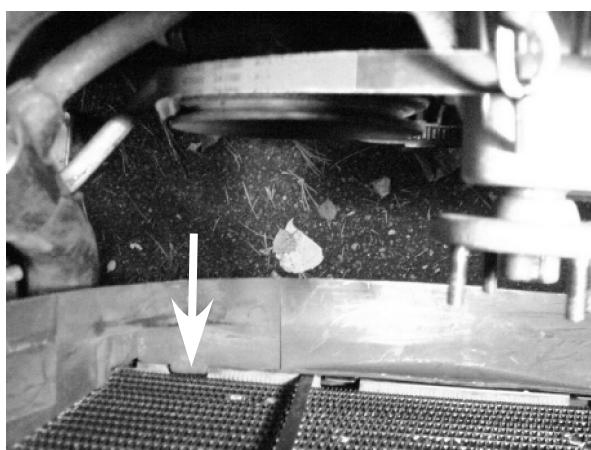

Figure 26.
15. Place fan shroud in position with the lower tabs set into the slots of the lower radiator frame (arrow, **Figure 26**).